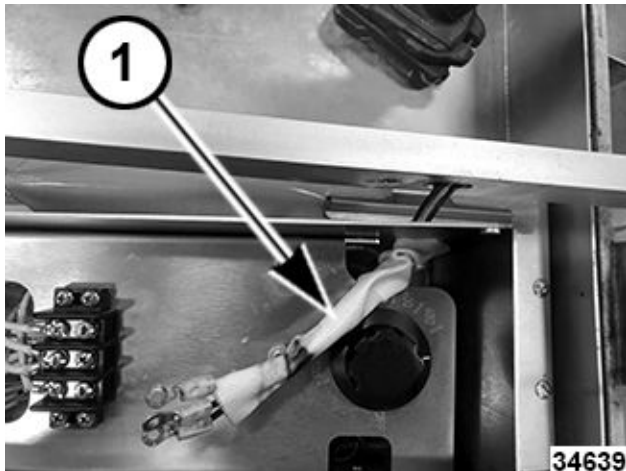

Fig. 26
- Carefully remove wiring (1, Fig. 26) out of control box.